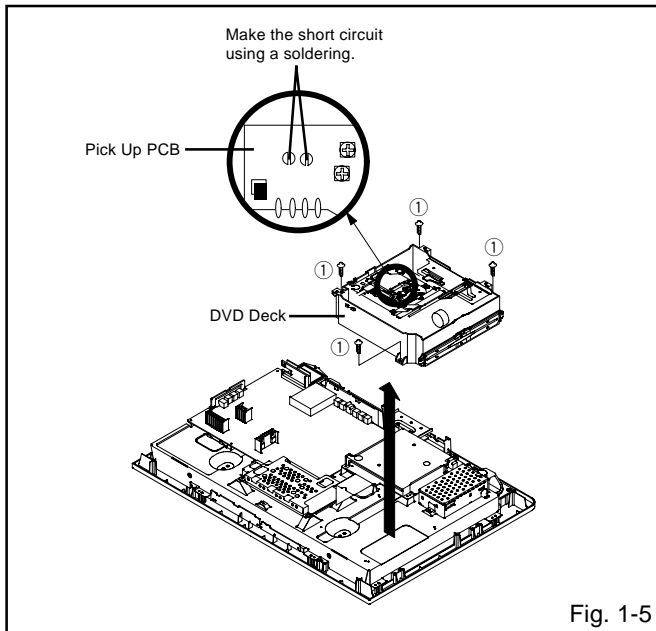

Fig. 1-5
### 1-5: DVD DECK (Refer to Fig. 1-5)
1. Make the short circuit on the position as shown Fig. 1-5 using a soldering. If you remove the DVD Deck with no soldering, the Laser may be damaged.
3. Remove the 4 screws ①.